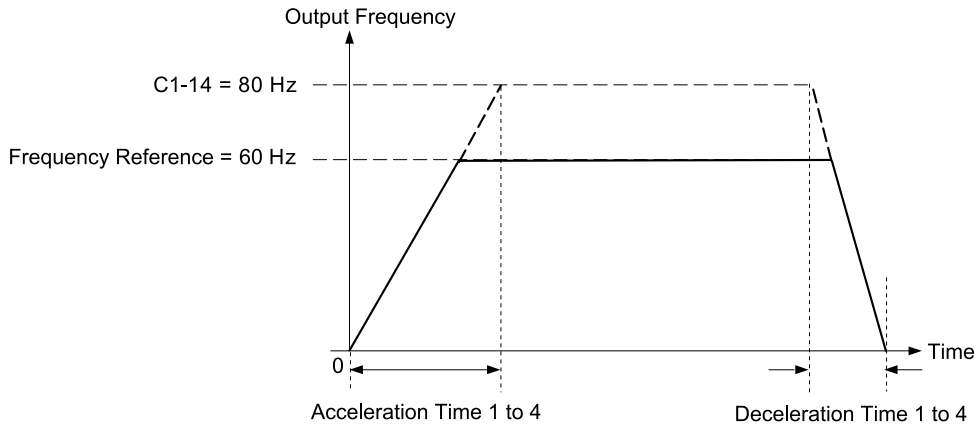

**Figure 11.48 Example 1: Acceleration/Deceleration Rate (When C1-14 = 0 Hz, E1-04 = 60 Hz, and the Frequency Reference is 60 Hz)**
- Figure 11.48 to Figure 11.50 show the accel/decel times when C2-01 to C2-04 [S-Curve Times @ Start/End of Accel/Decel] = 0.00 s.